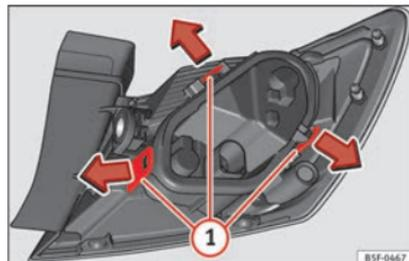

Fig. 219 Retaining tabs on reverse side of tail light.
- Remove the bulb holder » **Fig. 219** unlocking the retaining tabs ①.